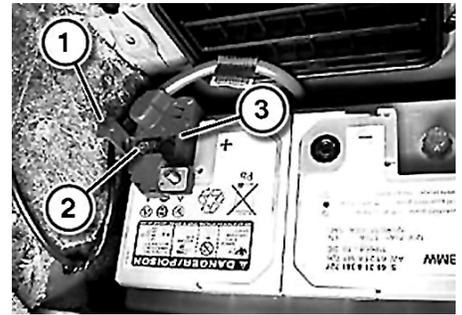

Fig. 5 Positive cable removal
6. Unlock positive terminal cover (1), **Fig. 5**.
7. Loosen nut (2), and disconnect cable (3) from battery, **Fig. 5**.
4. Install positive cable, and torque clamp bolt (2) to 47 inch lbs., **Fig. 5**.
5. Close positive terminal cover (1), **Fig. 5**.